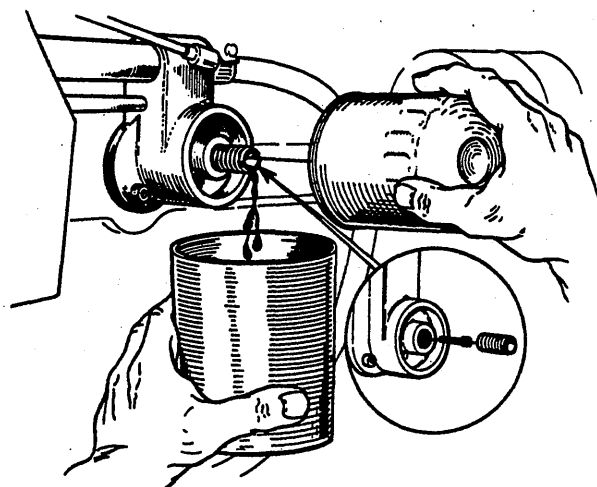

FIGURE 2
4. Replace lubricating oil filter. Fig. 2. See Note, next page.